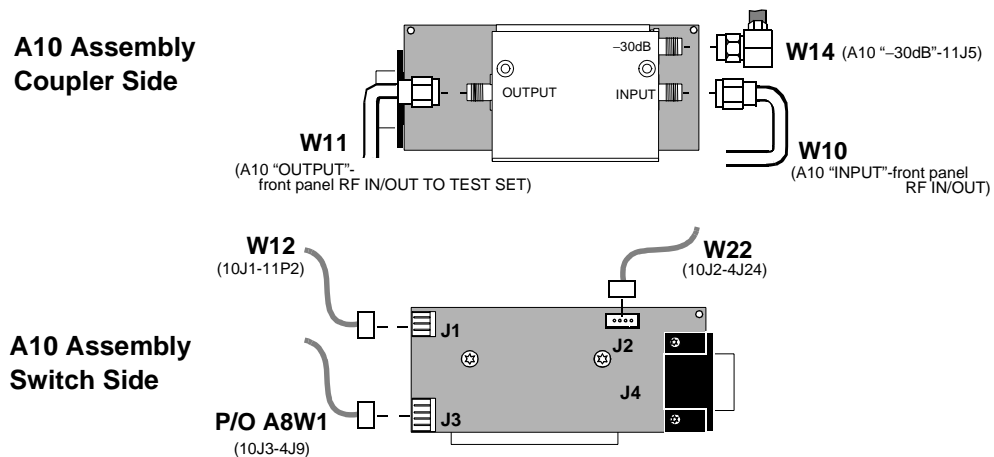

Figure 28
5. If you are replacing the semi-rigid cables W10 and W11, disconnect the W10 and W11 connectors on the A10 assembly, see figure 28.
7. If you are replacing the A10 assembly, disconnect the W10, W11, W14 connectors and the connectors at J1, J2, J3, and J4 on the A10 assembly, see figure 28.